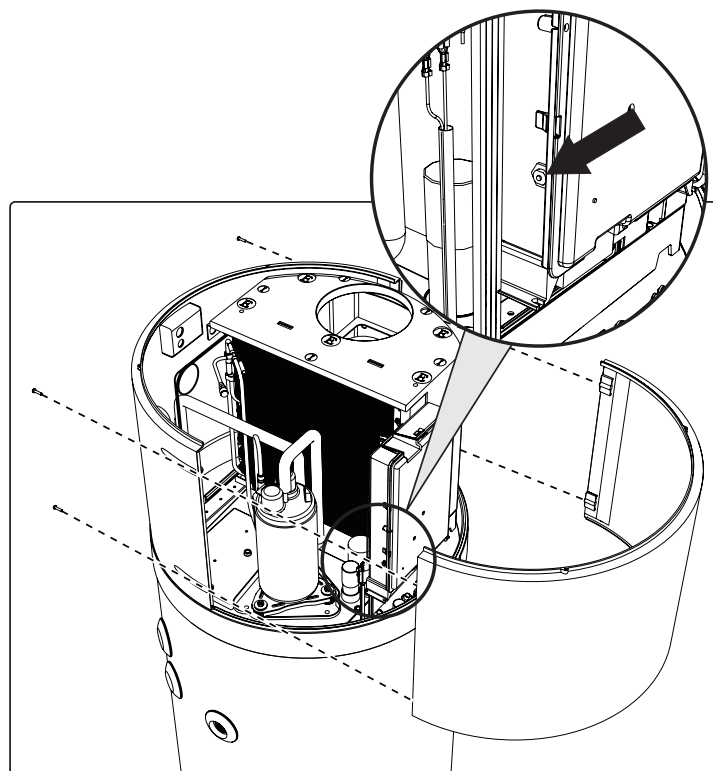

fig. 44 - Front panel removal
- Remove the front panel and manually reset the tripped safety thermostat (fig. 44). In case of intervention, the central pin of the thermostat comes out by about 2 mm.